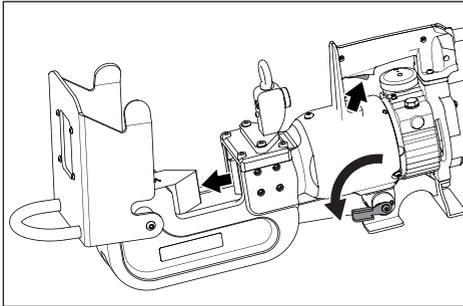

Figure 7, Advance Piston
- With the directional lever in position 1, press and hold the trigger to advance the piston and slide the moving blade forward. See Figure 7.
⚠ WARNING The cutter safety guard is shown in the open position in Figures 7 and 8 for illustration purposes only. Never operate the cutter with the safety guard open or removed.